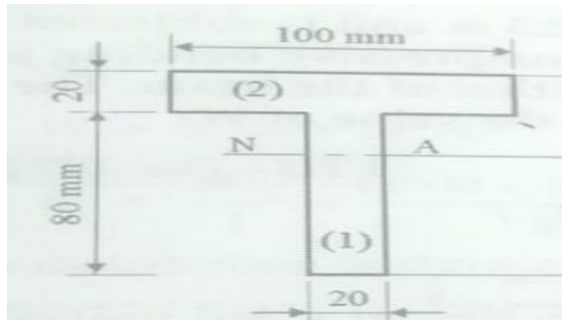

Fig Q 5(b)
- b. A cast iron beam of T section is shown in Fig Q 5(b). The beam is simply supported on a span of 8 m. The beam carries a UDL of 1.5 kN/m length over the entire span. Determine the maximum tensile and compressive stresses. **10** (3 : 3 : 2.2.4)